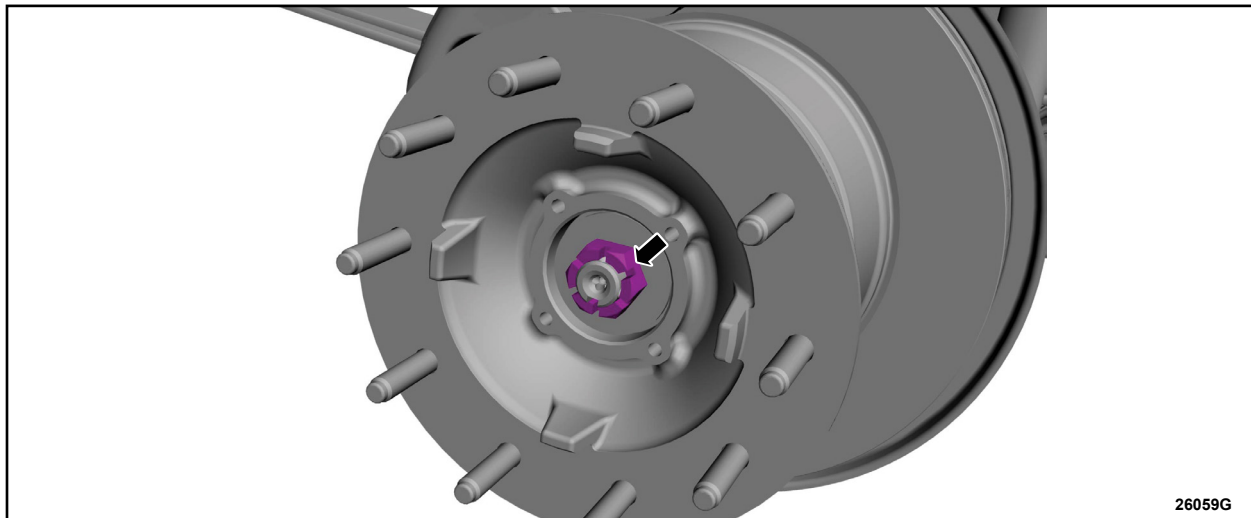
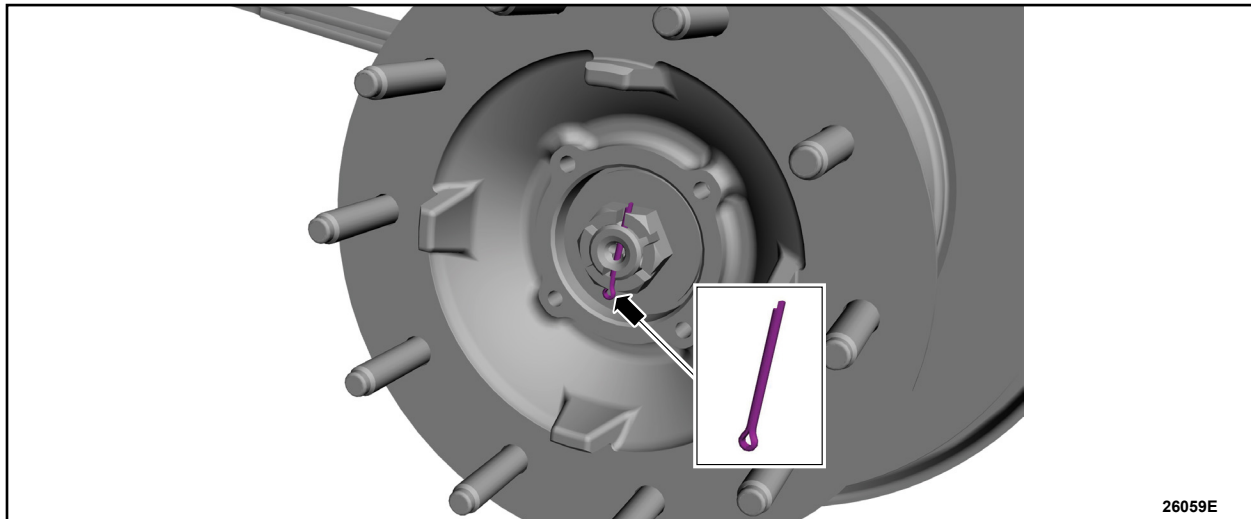

FIGURE 3
FIGURE 4
3. On both sides, visually inspect the front wheel spindle for the presence of the spindle nut (see Figure 3) and cotter pin (see Figure 4).